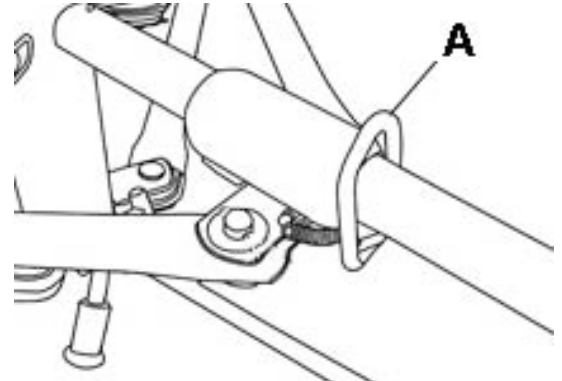

FIGURE 1
1) Place the tripod base assembly on the ground and then press down on the slide yoke ring (A) Fig.1 and hold the ring down and swing the legs out completely until the slide yoke ring snaps into the locking hole on the bottom of the slide tube.